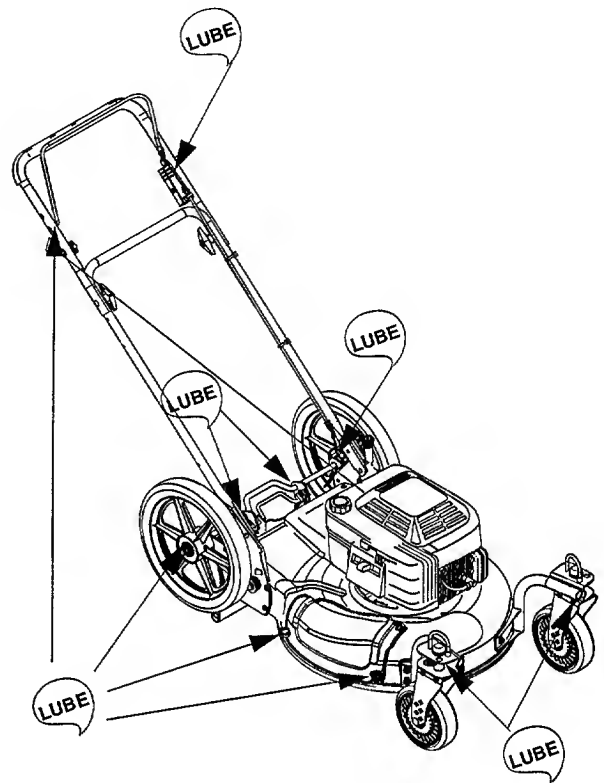

Figure 12
For complete lubrication chart, see Figure 12.
- Lubricate mower following the lubrication chart in Figure 12 of this manual.